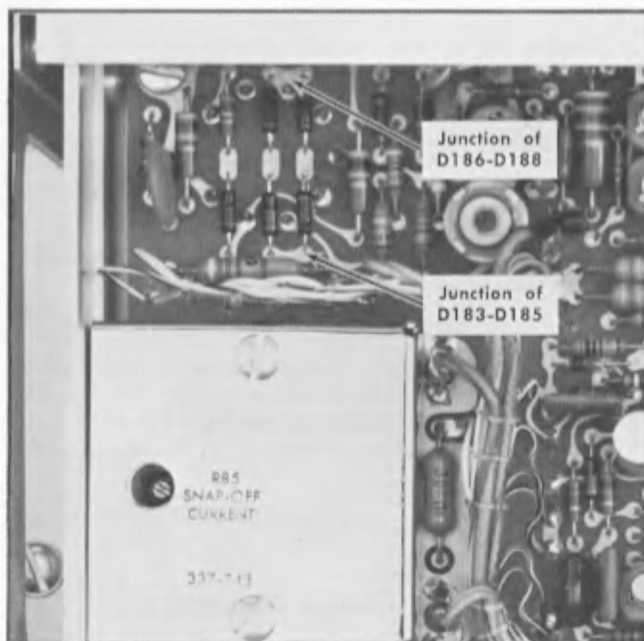

Fig. 5-42. Left side of Type 1S1 showing test points for checking dc vertical output voltage.
i. Touch the test probe to the junction of D183 and D185 (see Fig. 5-42).
l. Touch the test probe to the junction of D186 and D188 (see Fig. 5-42.)